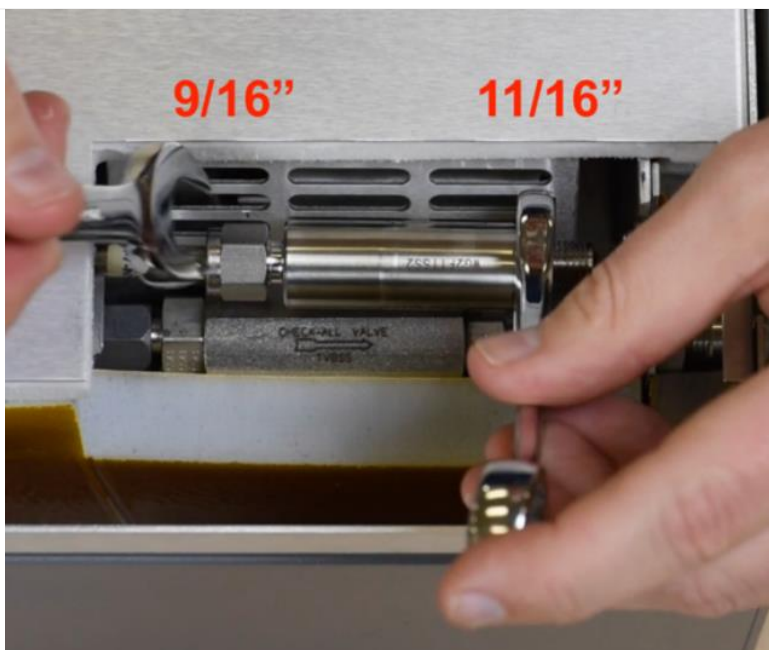

Figure 201. Remove Nut Securing Particulate Filter.
STEP 12 | Use the 11/16" on the flats of the filter (Fig 42) and loosen the other nut (9/16") securing the particulate filter (**Figure 201**). Thread the nut off until you can remove the particulate filter. Set this aside.